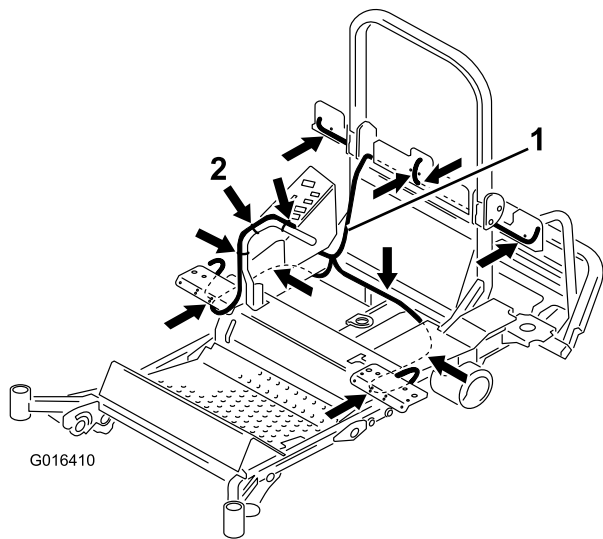

Figure 16
2. Route the wire harness on the machine: Upward between the side of the tank, the bulkhead, and along the tail board (Figure 16).
2. Route the wire harness branch along and under the rear cross member and through the chassis at the rear wheel (Figure 16).
1. Route the last branch of the wire harness with connectors to the combination switch assembly and the right-hand lamp and indicator (Figure 12) through the right-hand chassis at the rear wheel toward the headlight (Figure 16).
4. Secure the wire harness in position as shown in Figure 16.
2. Secure the wire harness to the motion lever with a cable tie, and ensure that there is enough play in the cable to allow the lever to move forward and backward (Figure 16).
3. Secure the harness in place with cable ties as shown by the arrows in Figure 16.